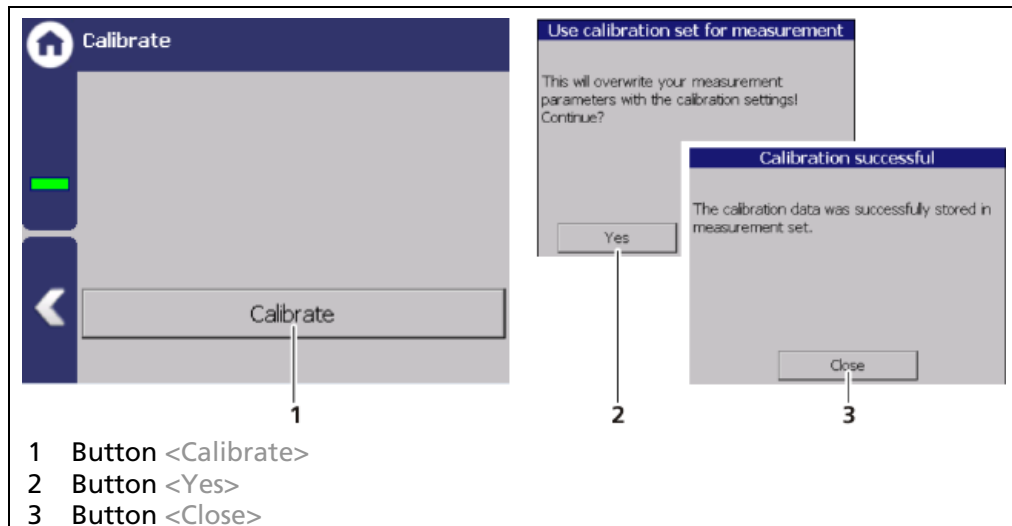

Fig. 73 Calibrate
1. Click on the button <Calibrate> (Fig. 73, item 1).
2. Click on the <Yes> button (Fig. 73, item 2) to overwrite your measurement parameters with the calibration settings.
3. Click on the <Close> button (Fig. 73, item 3)